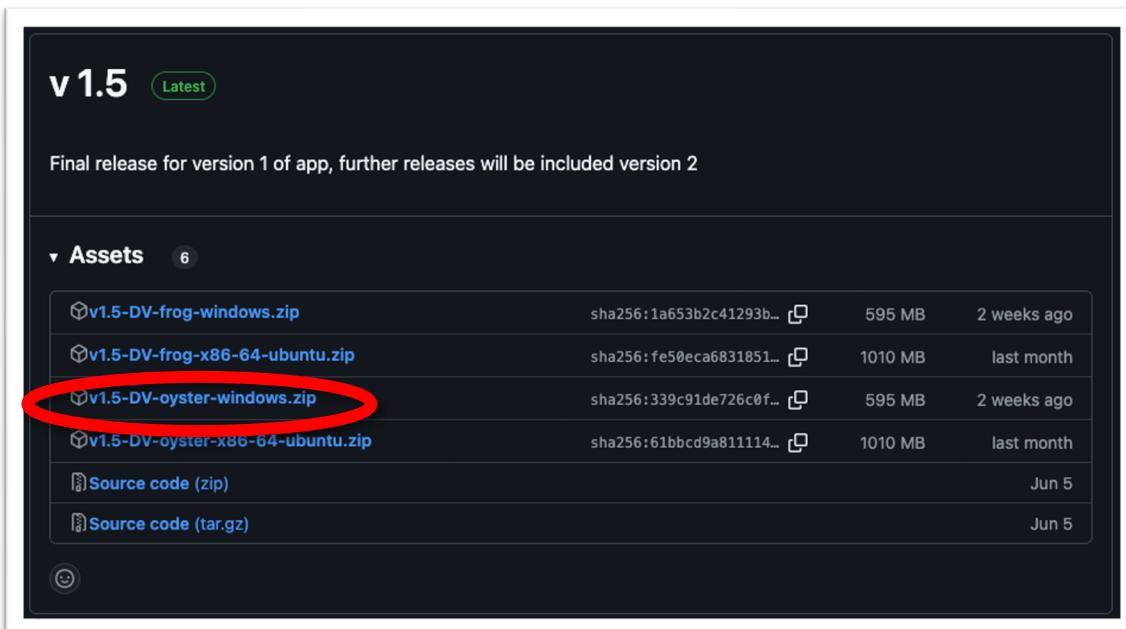

Figure 1.1. The “v1.5-DV-oyster-windows.zip” folder hosted on GitHub.
1. Go to <https://github.com/LSU-Devision/GUI/releases> and click the .zip folder named “v1.5-DV-oyster-windows.zip” to download (Figure 1.1).